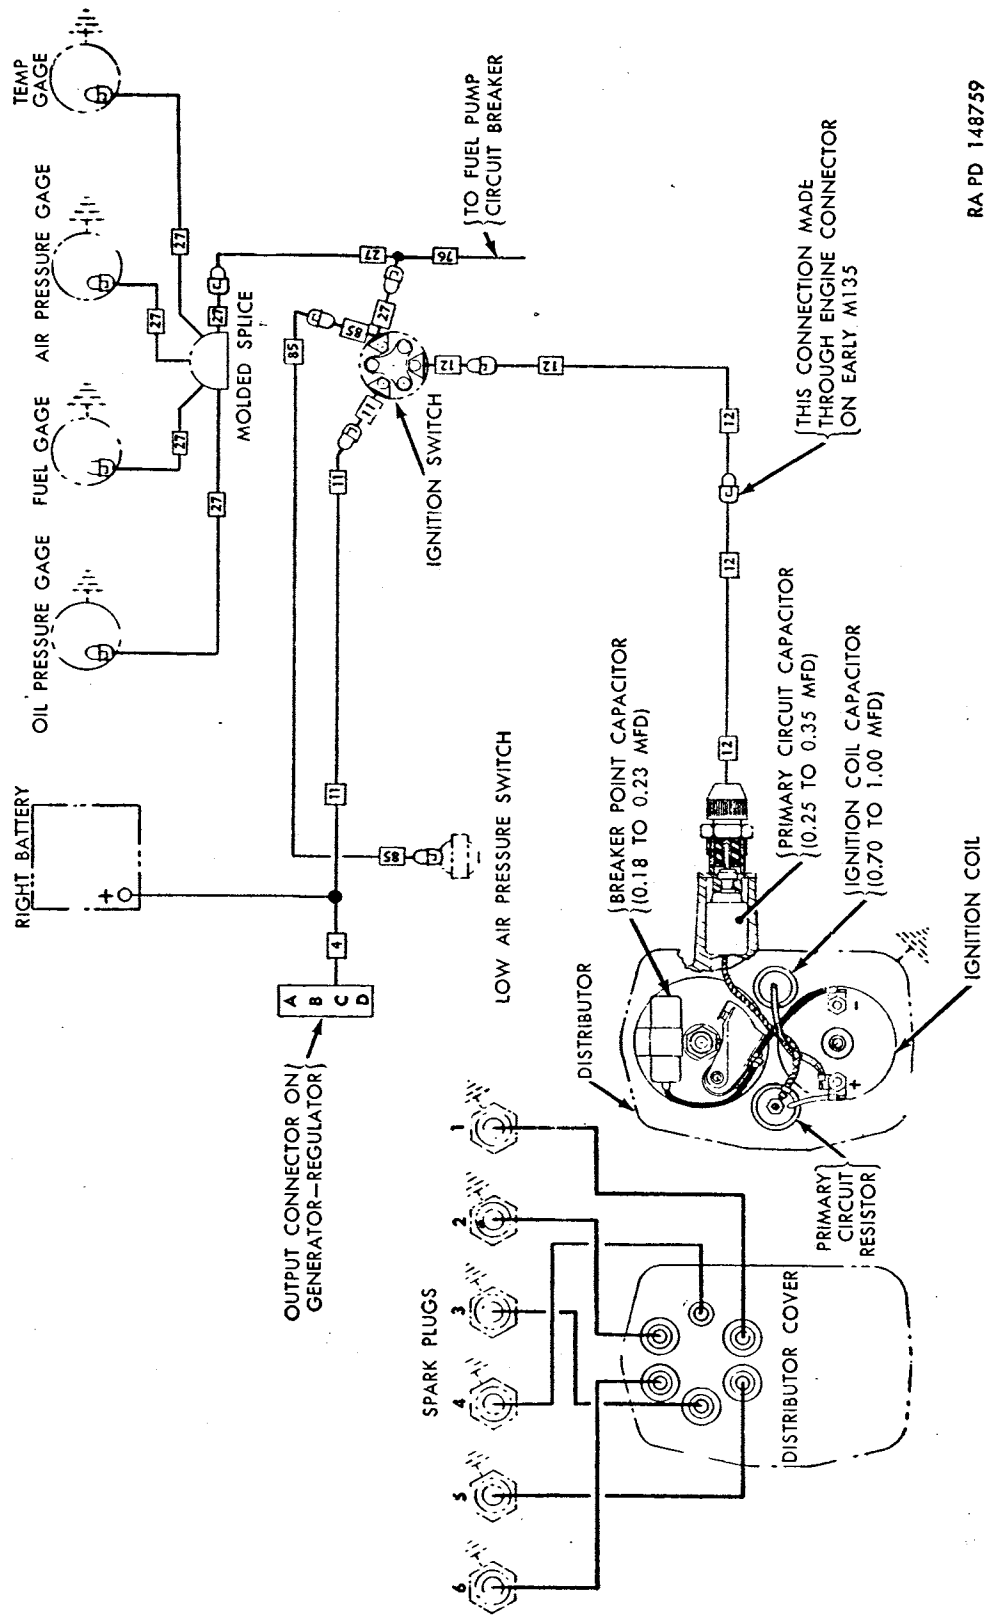

Figure 113. Ignition system circuit diagram.
- (1) *General.* The ignition system consists of the source of power (battery or generator), ignition switch, distributor, coil, spark plugs, and primary and secondary circuit wiring. The ignition system produces and delivers high voltage surges to the spark plugs at timed intervals. Each high voltage surge produces a spark at the spark plug to which it is delivered, igniting the mixture of air and fuel in the cylinder. Ignition system is completely shielded for radio interference suppression (par. 189), and sealed for submerged operation.
- (2) *Distributor and ignition coil assembly.* The distributor and ignition coil assembly is a unit designed to convert low voltage (primary circuit) into high voltage (secondary circuit); to distribute the high voltage to the spark plugs; and to vary the timing of the spark automatically to provide efficient operation of the engine. Distributor mechanism and ignition coil, together with three capacitors (condensers), primary circuit resistor, and governor spinner valve are assembled in the distributor housing. Distributor is mounted on right side of engine. Distributor shaft is driven from engine camshaft by spiral cut gears. Lower end of distributor shaft is tongued and engages a slot in upper end of oil pump shaft to drive oil pump. Operation of governor centrifugal-type valve, which is driven by distributor shaft, is described in paragraph 129.
- (3) *Spark plugs.* Each spark plug consists of a shell, insulator, and center electrode. The center electrode is completely insulated from the shell by the insulator. A grounded electrode is integral with the shell. When high voltage surge is delivered to the spark plug center electrode, it jumps the gap to the grounded electrode, producing a spark which ignites the air-fuel mixture in the cylinder. A 10,000-ohm resistor is built into each spark plug for radio interference suppression.
(4) *Ignition system circuits* (fig. 113). There are two distinct electrical circuits in the ignition system, the primary and the secondary. The primary, or low voltage circuit, includes the source of electrical energy (battery or generator), ignition switch, distributor contact points and circuit breaker mechanism, primary winding of the ignition coil, and the ignition coil capacitor (condenser). The secondary, or high voltage circuit, includes the secondary winding of the ignition coil, distributor rotor and cap, spark plugs, and spark plug cables.